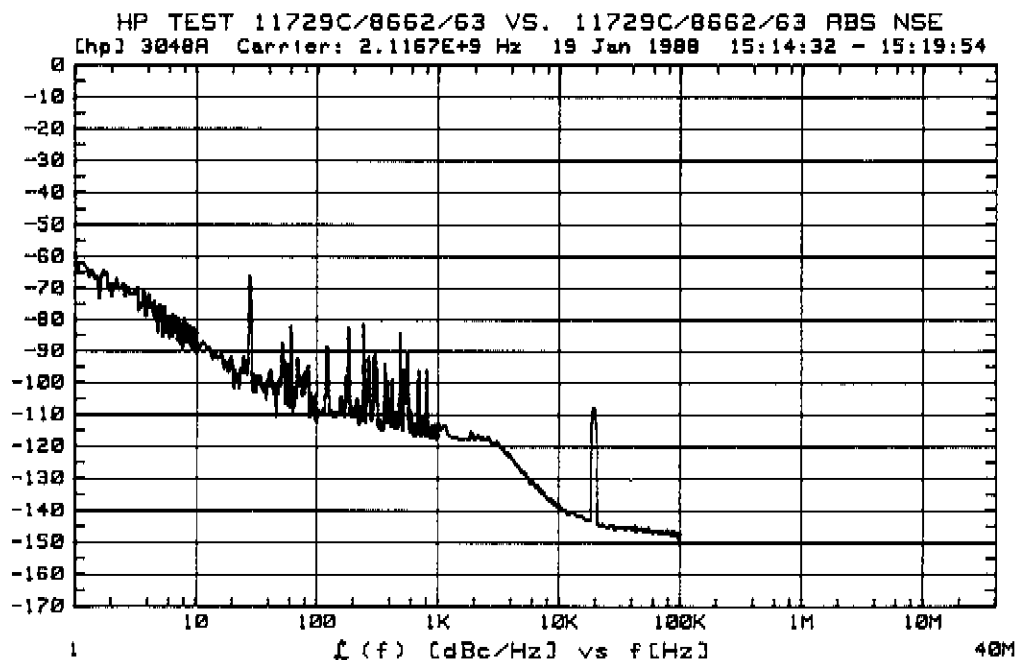

Figure 36. Typical Spectral Purity Tests Results
13. Press **F1**. The measurement should proceed automatically. The measured noise should be similar to that shown in Figure 36 and should be within the limits given in the following table.